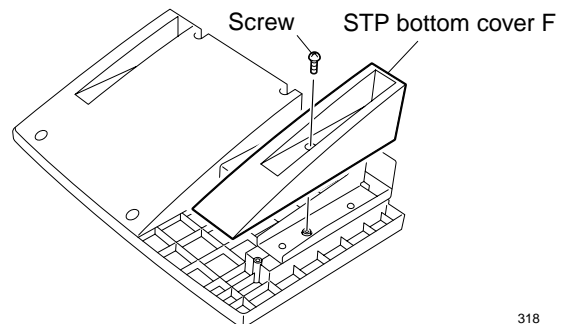

Fig. 6-8
- Detach STP bottom cover F. (See Fig. 6-8)